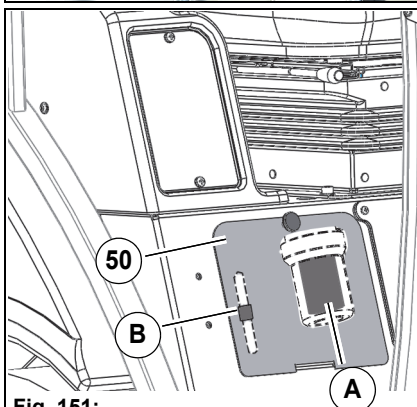

Fig. 151:
In the driver's cab under the driver's seat behind the cover plate **Fig. 151-50** are located the sieve filter **Fig. 151-A** and the reducing piece **Fig. 151-B** of the water pump. Unscrew the filter housing, check the sieve filter and the reducing piece for openness and clean if necessary.
3. Also empty the sieve filter **Fig. 151-B**.